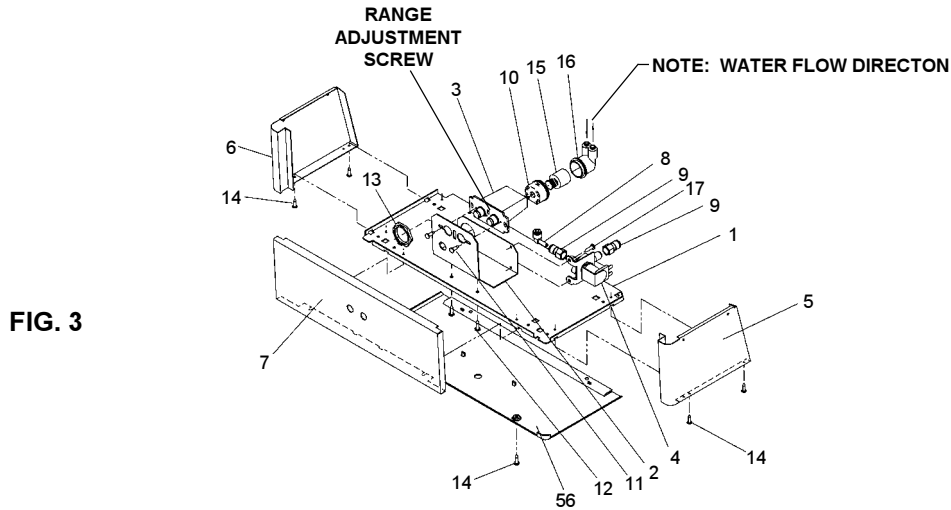

FIG. 3
- B. Using a small tip screwdriver, rotate range adjustment screw clockwise to increase range and counterclockwise to decrease range (See Fig. 3).
- 5) Loosen the two (2) screws holding the lower front panel at the bottom of cooler base and two (2) screws at the top. Remove the front panel and set aside.
- 8) Stream height is factory set at 35 PSI. If supply pressure varies greatly from this, adjust screw, accessible by removing front panel (Item 7, Fig. 3). CW adjustment will raise stream and CCW adjustment will lower stream. For best adjustment, stream should hit basin approximately 6-1/2" (165mm) from bubbler.
- 9) Replace the front panel and secure by retightening four (4) screws.